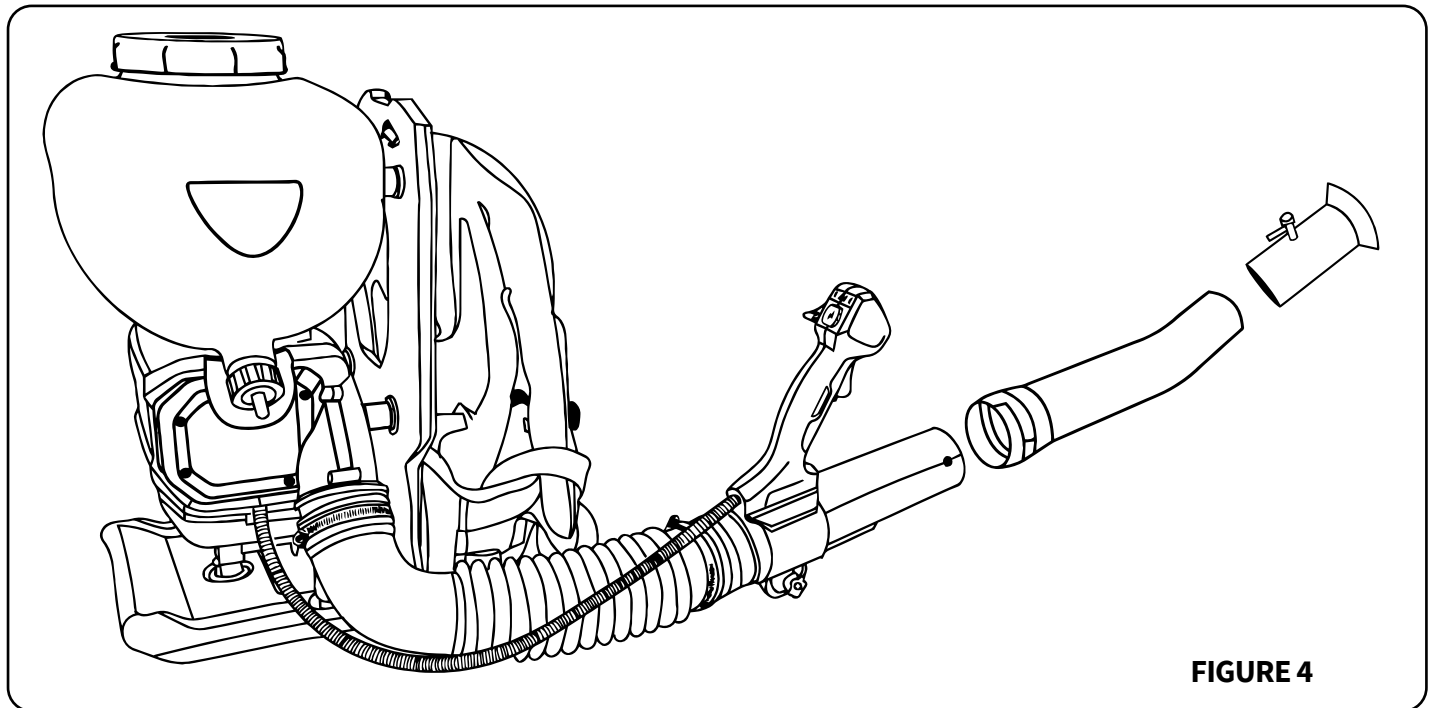

FIGURE 4
4.2.4 Connect the blower pipe to the other end of the connecting pipe. Twist to lock in place. **FIGURE 4.**
4.2.4 Attach the fan nozzle to the other end of the blower pipe. **FIGURE 4.**